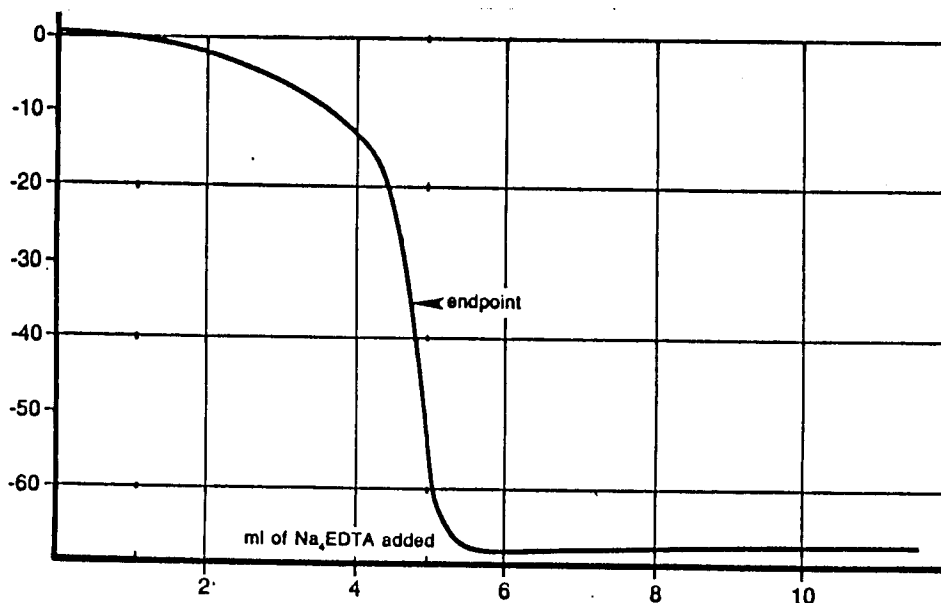

Figure 3-2. Typical Titration of 100mL of $5 \times 10^{-3} \text{M CaCl}_2$ (pH adjusted to 10 with ammonia) with 0.1 Na_4EDTA
6. Plot the milliliters of EDTA added against the mV potential on standard coordinate graph paper. Refer to Figure 3-2. The point of greatest potential change is the end point.